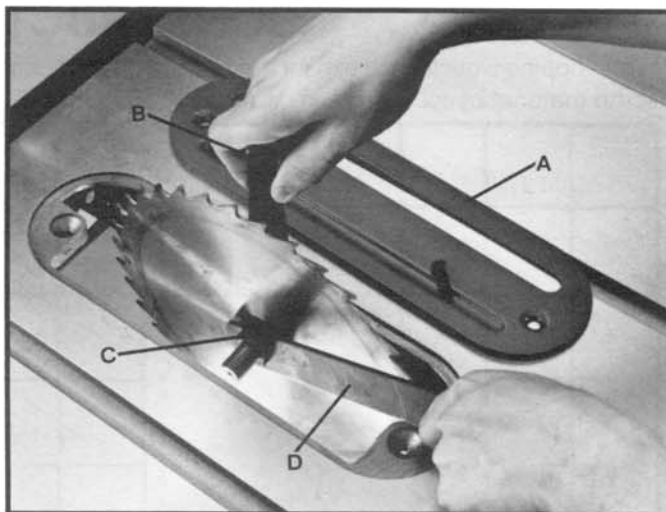

Fig. 46
2. Raise saw blade to its maximum height and remove the table insert (A) Fig. 46.
3. Using the open end wrench (B) Fig. 46, place wrench on flats on saw arbor and remove arbor nut (C) using wrench (D) by turning nut clockwise. Remove blade flange and saw blade.
4. Assemble new blade making certain teeth of blade are pointing down at the front, assemble outside blade flange and nut (C). Tighten nut (C) with wrench (D) by turning nut counterclockwise while holding arbor steady with wrench (B).
5. Replace table insert (A) Fig. 46.